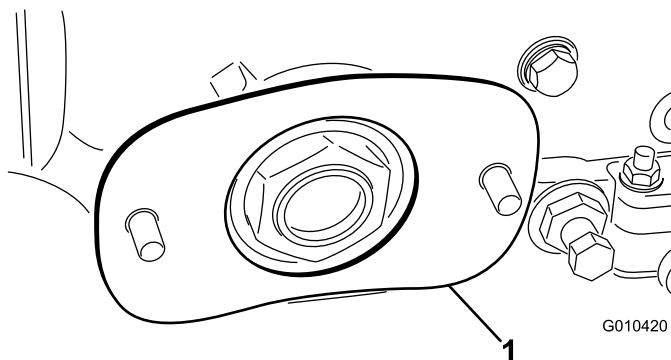

Figure 5
8. Insert the shim onto the bolts, positioning as shown in Figure 5.